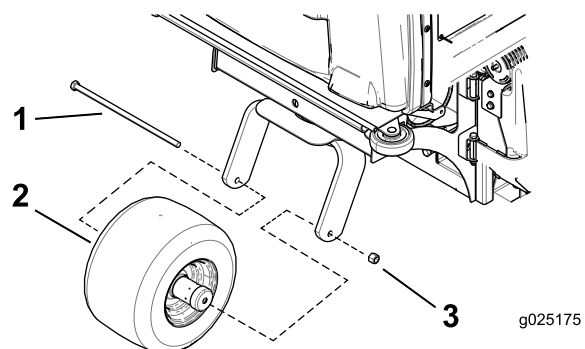

Figure 11
2. Remove the bolt holding the rear frame to the crate (Figure 11).
7. Install the rear caster wheel to the rear caster fork with a bolt (1/2 x 13 inches) and locknut (1/2 inch) (Figure 11).